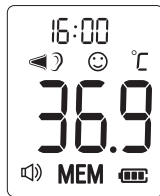

Figure 13
2. The thermometer will automatically memorize the last 30 temperature readings. Each memory also records the measurement date/time/mode icon. Each time the Button is pressed, the screen displays past readings that correspond with a number 1-30. The number 1 reflects the most recent reading, while the number 30 reveals the oldest reading stored in memory. (See Figure 13)